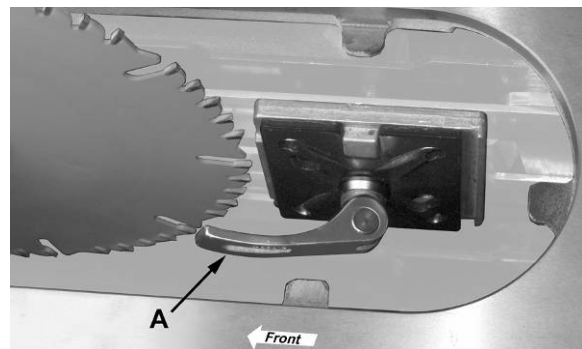

Figure 14
4. Loosen the *lock handle* (A, Fig. 14) and remove the riving knife, making a note as to which direction the riving knife needs to be moved to align it with the saw blade.